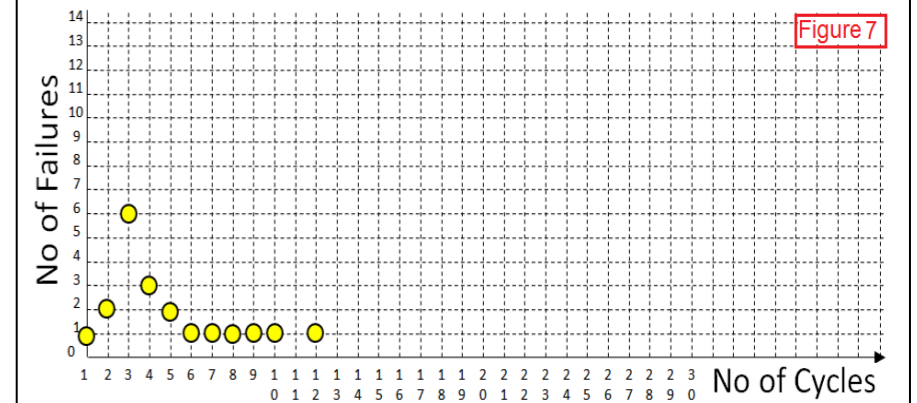

Figure 7
- 8) Complete steps 1 to 7 for all clips, compile and plot results as shown in Figure 7 below.